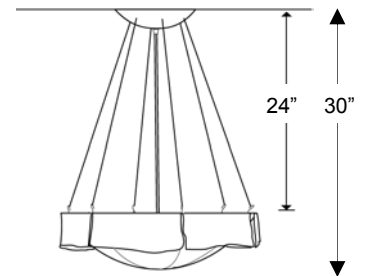

Figure 1
1. Determining the shade height (Figure 1)